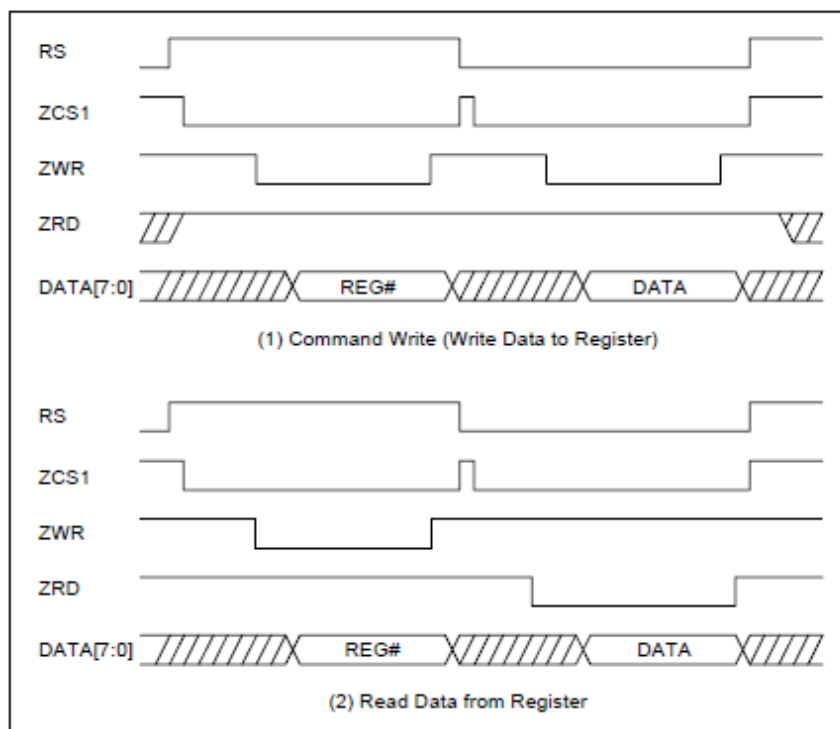
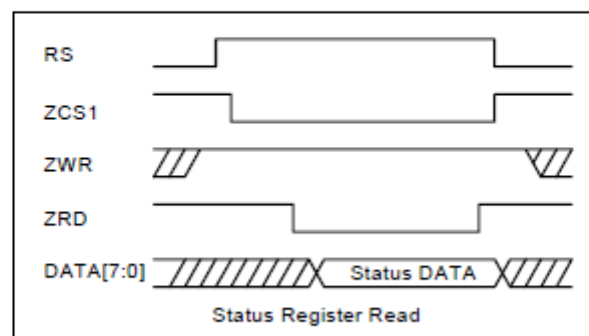

Figure 6-5 : Command Write and Register Read Cycle
Figure 6-7 : Status Read Cycle
According to the Table 5-1, RA8806 accept 4 cycles through MPU interface. If users want to write command to RA8806, then a Command cycle has to execute first, and then execute a Data Write cycle. The "Command Write" means write function data to register. After these two cycles, the Data will write into the indicative Register. Please see the following Figure 6-5 (1).
If the secondary cycle is a "Data Read", then user could read the register content. See the following Figure 6-5 (2). Note the Figure 6-5 to Figure 6-7 are use the 8080 MPU interface as examples.
RA8806 provides a dedicate Status Read cycle to help users know the status of RA8806. Please refer to following Figure 6-7 and the beginning of Section 5-2 "Register Description".